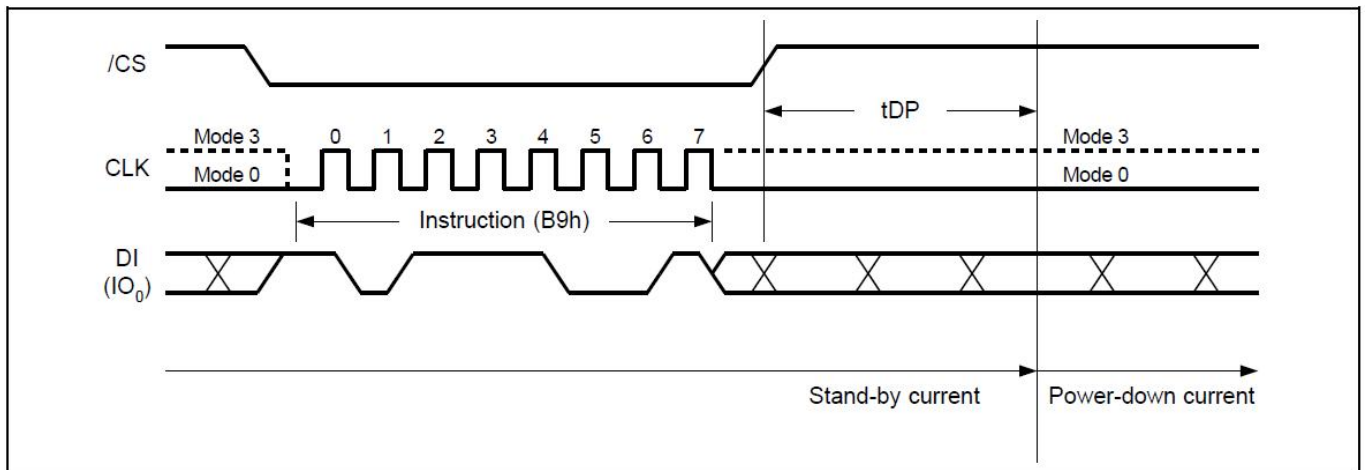

Figure14. Deep Power-Down Sequence Diagram
The Deep Power-Down Mode automatically stops at Power-Down, and the device always in the Standby Mode after Power-Up. The Deep Power-Down command sequence: CS# goes low → sending Deep Power-Down command → CS# goes high. The command sequence is shown in Figure14. CS# must be driven high after the eighth bit of the command code has been latched in; otherwise the Deep Power-Down (DP) command is not executed. As soon as CS# is driven high, it requires a delay of  $t_{DP}$  before the supply current is reduced to ICC2 and the Deep Power-Down Mode is entered. Any Deep Power-Down (DP) command, while an Erase, Program or Write cycle is in progress, is rejected without having any effects on the cycle that is in progress.